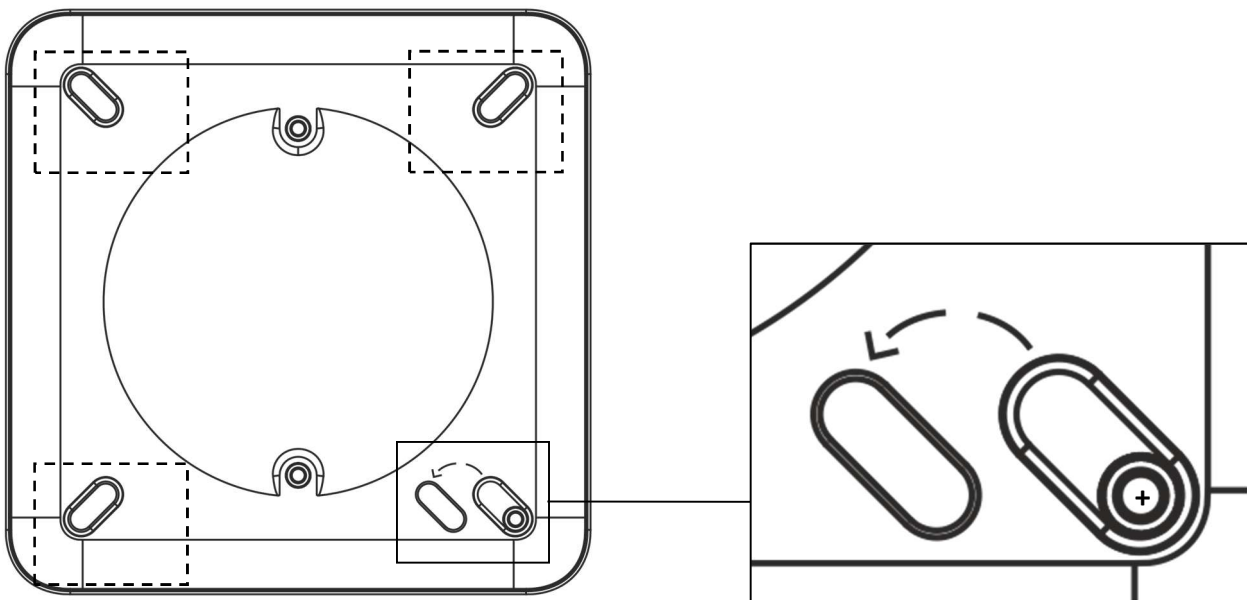
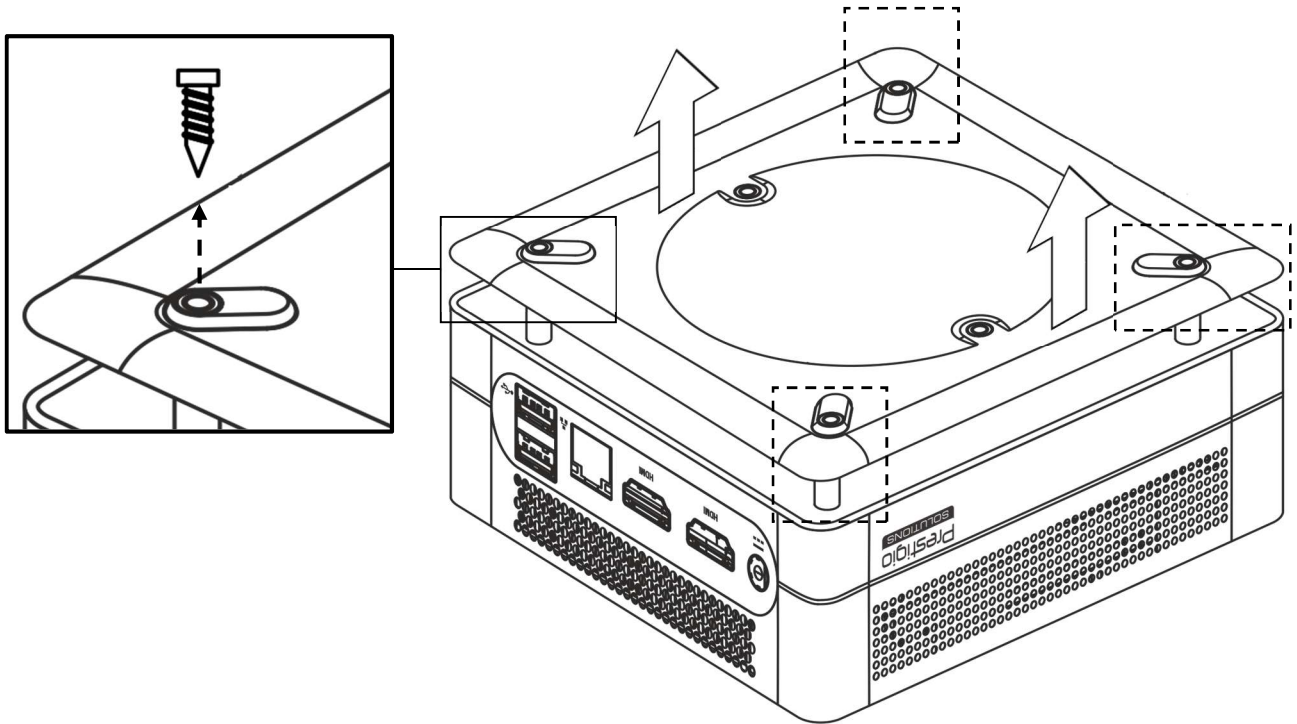

Figure 4 – Removing the feet
Figure 5 – Removing the bottom case cover
Step 1. Remove the 4 feet from the bottom cover of the mini PC case, as shown in figure 4, to access the screws. Unscrew the 4 screws and remove the bottom cover by pulling it upward, as shown in figure 5.